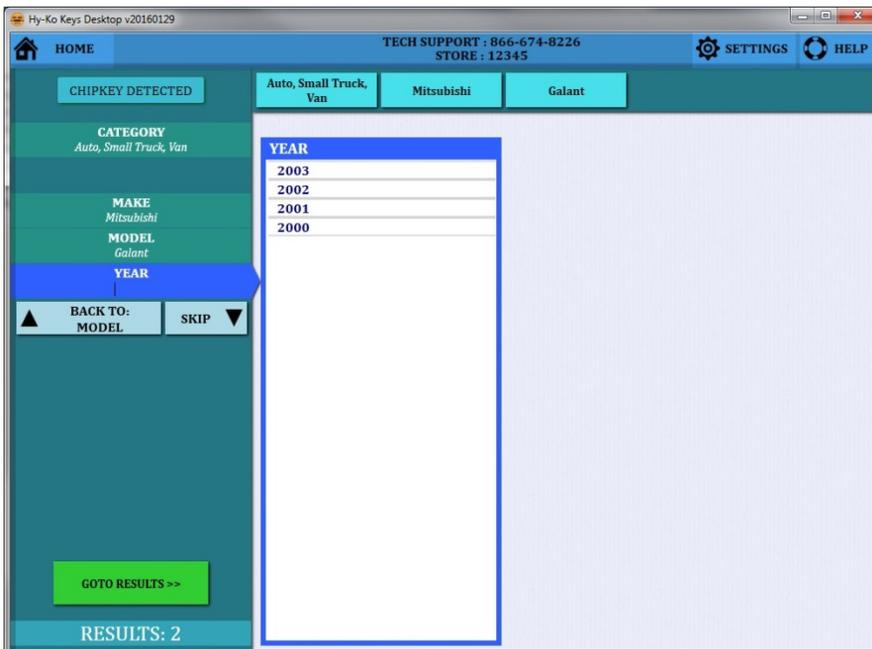

fig. 70
- Choose the Year by clicking on it from the list or by typing it in the 'YEAR' box on the left (see fig. 70).